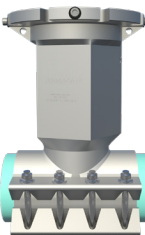
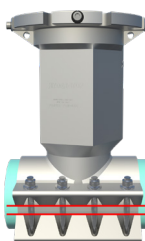

FIGURE 3
FIGURE 4
2.0.8) Install stainless steel carriage bolts, washers, and nuts (see Figure 3). Finger-tighten nuts, ensuring gaps between the top and bottom halves of the valve body are the same front-to-back and side-to-side within 1/8" (see Figure 4).